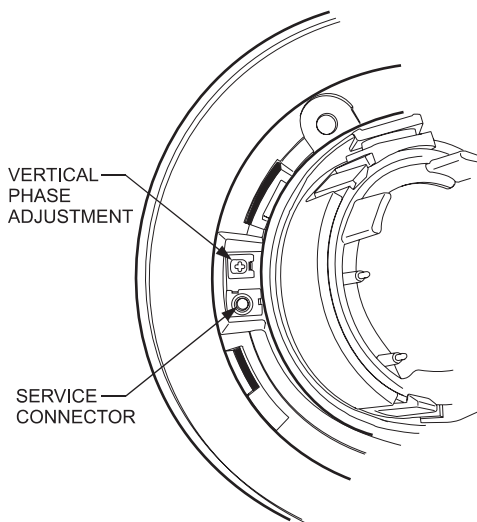

Figure 10. Vertical Phase Adjustment
2. Select a camera and synchronize it to the reference camera by turning the phase adjustment control (refer to Figure 10) clockwise or counterclockwise.